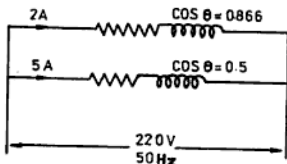

Fig. NE 11.33
- 11.33 Two coils as shown in the circuit (Fig. NE 11.33) are connected in parallel and take currents  $2 \text{ A}$  and  $5 \text{ A}$  at power factors  $0.866$  and  $0.5$  respectively. If the whole combination is connected across a  $220 \text{ V}$ ,  $50 \text{ Hz}$  supply, calculate: